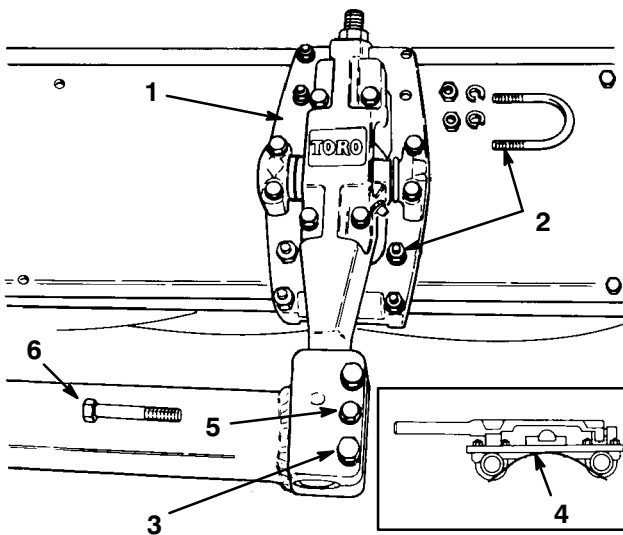

Figure 4
Mount a Floation Kit Assembly (Fig. 4) to each cutting unit with U-bolts, lock washers and nuts supplied with kits. Male end of floatation assembly to be positioned forward. Tighten U-bolts evenly.
**Note:** When installing floating head assembly to cutting unit, make sure flap on bottom of assembly is positioned to the inside of the cutting frame tubes (Fig. 4, inset).